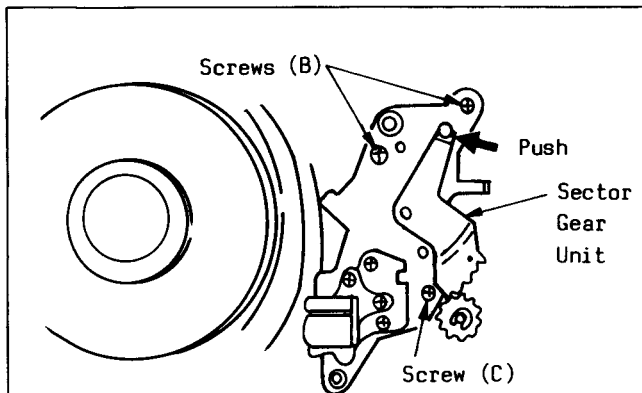

Fig. M10
- (5) Remove 2 Screws (B). Then remove Screw (C) while slightly pushing on the Sector Gear Unit to reveal Screw (C) as shown in Fig. M10. Then remove the A/C Head Base Unit.